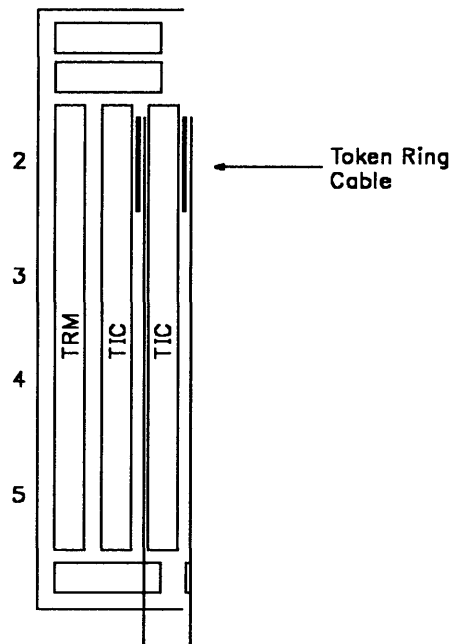
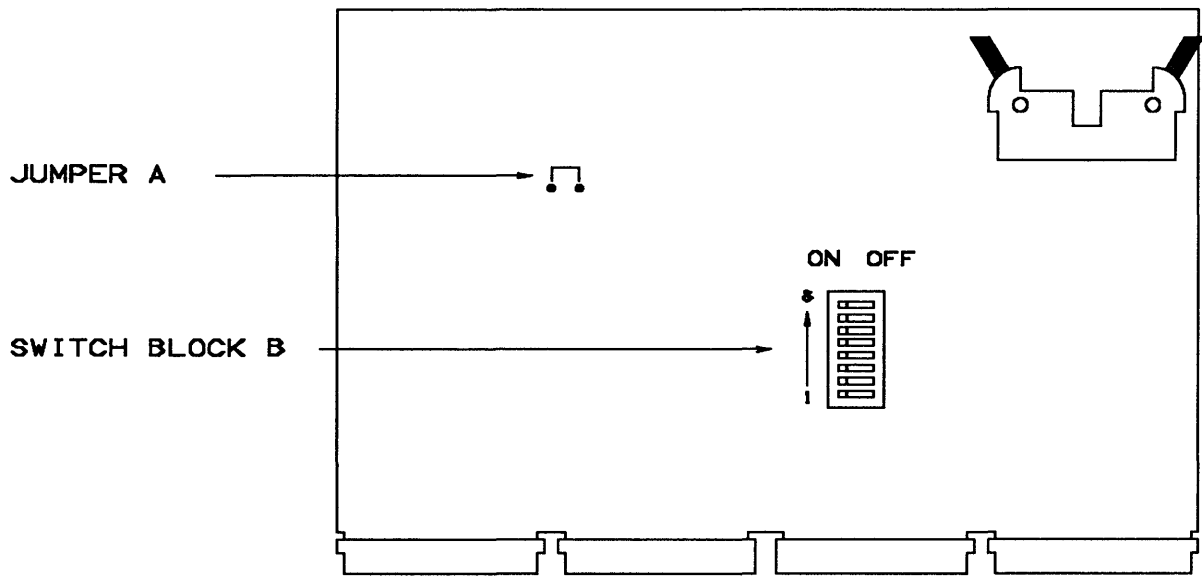

Figure 5-66. TIC and TRM
Figure 5-67. Location of Jumper A and Switch Block B on the TIC Card
Refer to Figure 5-66 on page 5-75 and Figure 5-67 on page 5-75.
6. If you were sent to exchange the TRM, exchange it now. Refer to Figure 5-66 on page 5-75.